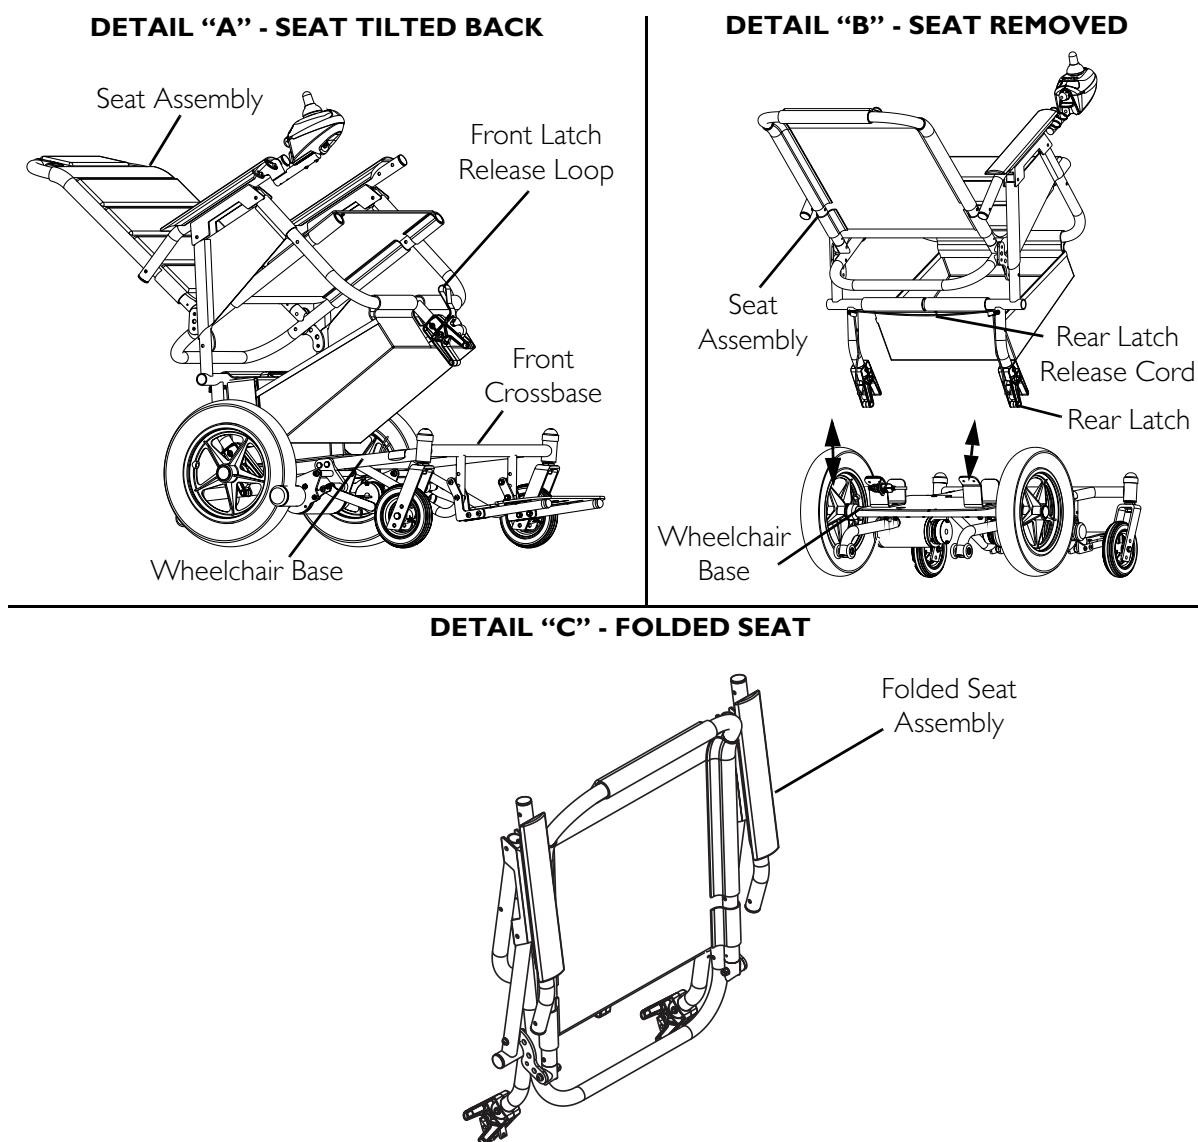

FIGURE 6.1 Removing/Installing the Seat
NOTE: For this procedure, refer to FIGURE 6.1.
3. Pull up the front seat release loop and tilt the seat back. Refer to Detail “A” of FIGURE 6.1.
4. Pull up the rear seat release cord with the other hand and lift the seat assembly off and away from the wheelchair base. Refer to Detail “B” of FIGURE 6.1.
5. Fold the seat assembly. Refer to Detail “C” of FIGURE 6.1.